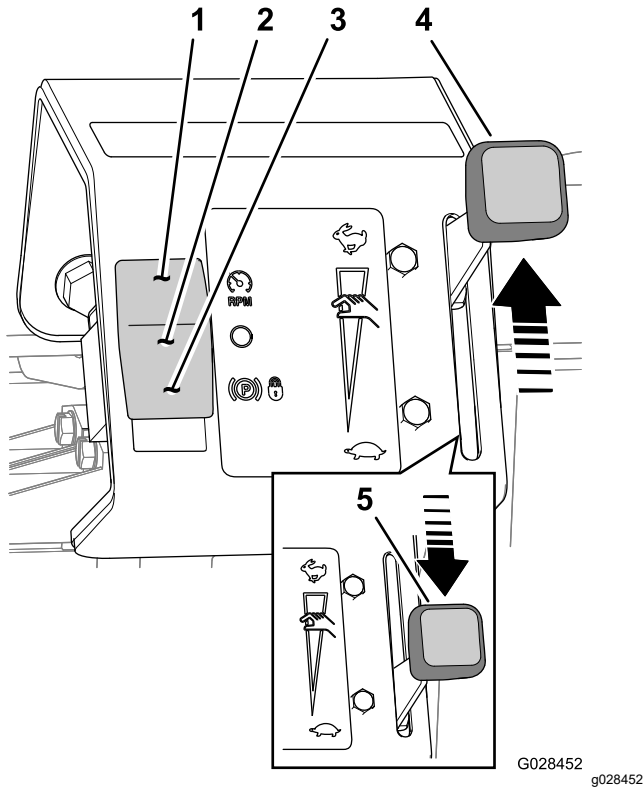

Figure 29
2. Move the hand throttle to the SLOW position (Figure 29).
3. Press the mode switch down to the throttle-lock position (Figure 29).
5. Move the hand throttle toward the FAST position (Figure 29).
6. Move the hand throttle to the SLOW position (Figure 29).
9. Move the hand throttle toward the FAST position (Figure 29).
1. Move the hand throttle to the SLOW position (Figure 29).
2. Press the mode switch up to the OFF position (Figure 29).
6. Move the hand throttle toward the FAST position (Figure 29).
2. Press the mode switch up to the limit ground-speed position (Figure 29).
5. While pressing the throttle pedal, move the hand throttle toward the FAST position (Figure 29).